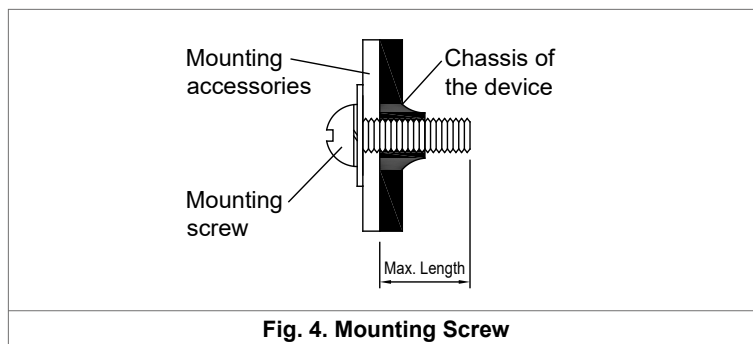

Fig. 4. Mounting Screw
6. Installation of Mounting Accessories (Refer to Fig. 4)